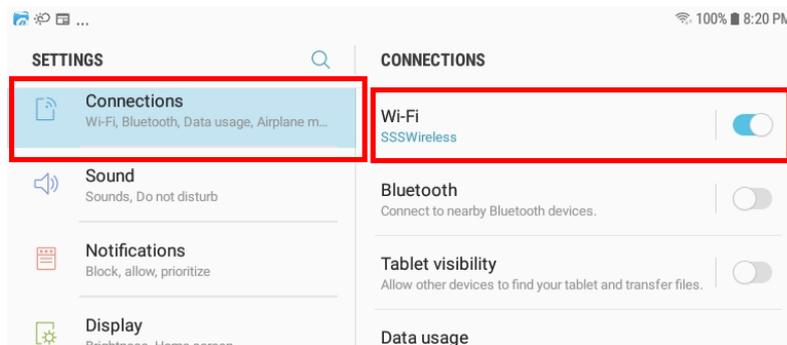

Figure 14 The Wi-Fi Connection page in the Android Settings app
- (3) Make sure power to your NCE Command Station and booster is on, the WFD-30 is connected to the command station and there is a locomotive on the track with a DCC address that you know. Both the red power LED and the blue Cab Bus indicator LED should be alight.
- (4) Tap the Home button, and run the settings app on your Android phone.
- (5) Tap Connections on the left, then Wi-Fi on the right as Figure 14 (This may vary with different versions of Android).